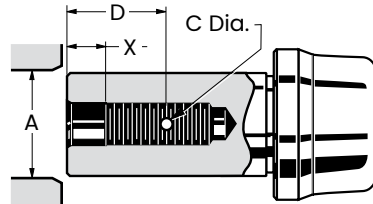

Figure 2 - Plug Stem Pinning
Measure the depth of the pilot recess in the plug (B005) (Dimension X as shown in Figure 2), and make a reference mark on the plug stem (B008) at the same distance from the thread.
While pinning is being performed, care must be taken not to damage the seating surface or plug guide. Always use a soft metal or plastic vice jaws with cylindrical features to hold the plug guide area (see Figure 2).
- If the plug (B005) is already fully drilled, then drill the stem (B008) to the same diameter (see Figure 2) as the plug (B005) shank hole.
- Match Diameter C (see Figure 2)
- Measure Dimension D based on the plug (B005) diameter and plug stem (B008) diameter (see Figure 2).
1. Select the correct size plug stem pin (B007) based on the plug (B005) diameter and plug stem (B008) diameter (see Figure 2). Apply a small amount of grease on the pin and hand assemble it into the hole in the plug.
2. Press fit the plug stem pin (B007) into the hole using a hammer while the plug is held in a vise. (see Figure 2).